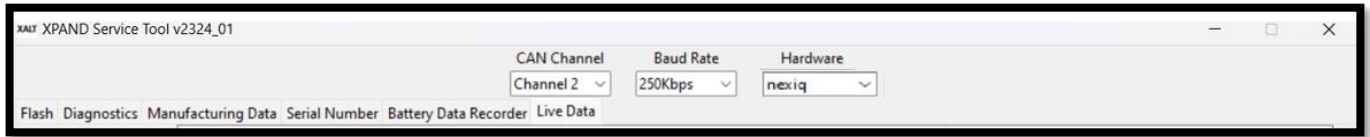

Fig 4: XST setup for MCU bootloader
- 8.4.1.1. Open the **ES** and search for the **PROP RR GN DIAG PORT**, refer Fig 4